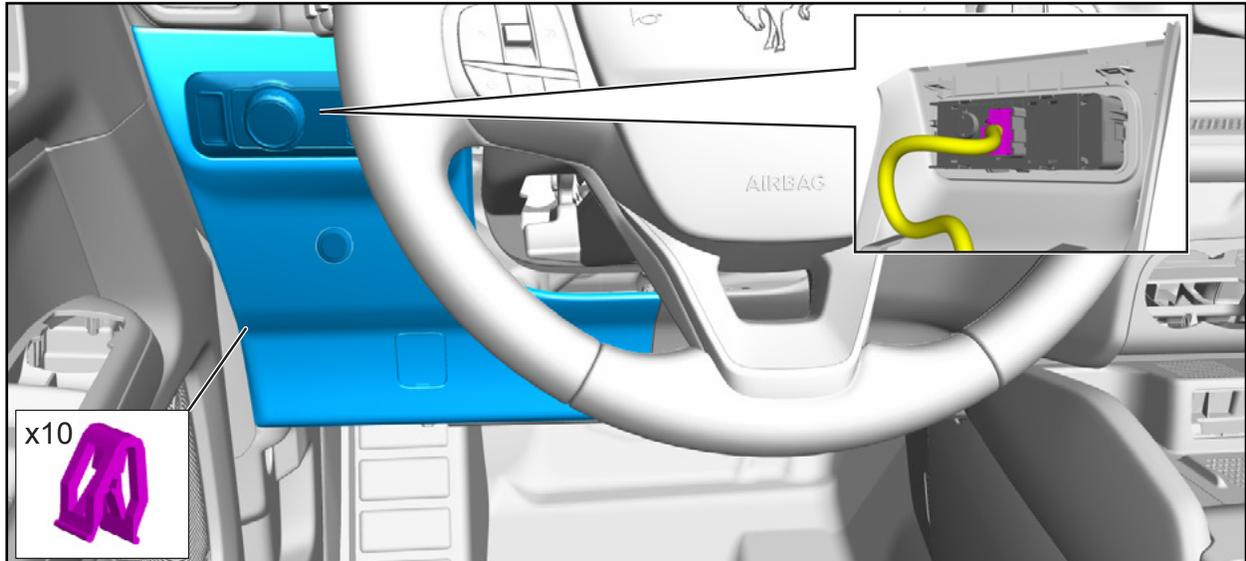

FIGURE 51
51. Install the LH steering column trim panel. See Figure 51.